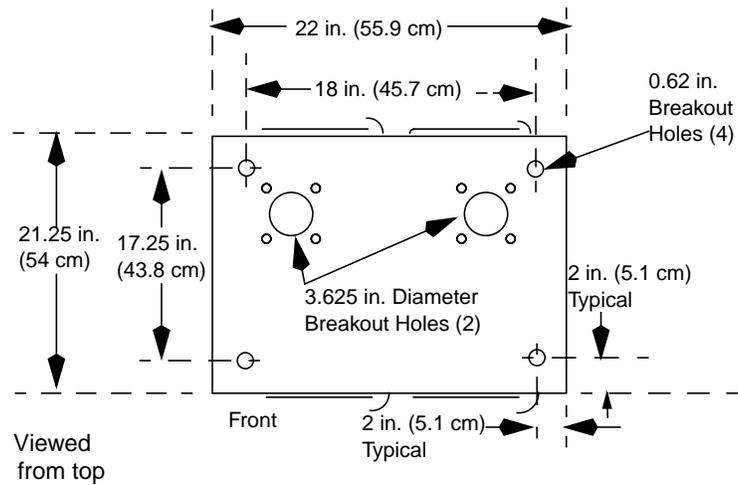

Figure 3-7: Drilling Template for a 25-in. Station Cabinet
- Base mounting (see Figure 3-7)